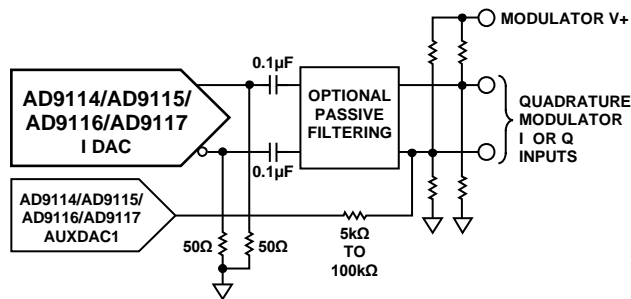
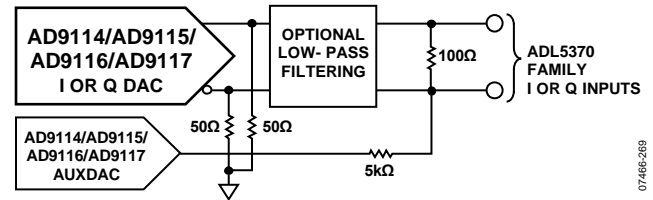

Figure 107. Typical Use of Auxiliary DACs
Figure 108. Typical Use of Auxiliary DACs When DC Coupling to Quadrature Modulator ADL537x Family
The auxiliary DACs can be used for local oscillator (LO) cancellation when the DAC output is followed by a quadrature modulator. This LO feedthrough is caused by the input referred dc offset voltage of the quadrature modulator (and the DAC output offset voltage mismatch) and can degrade system performance. Typical DAC-to-quadrature modulator interfaces are shown in Figure 107 and Figure 108, with the series resistor value chosen to give an appropriate adjustment range. Figure 107 also shows external load resistors in use. Often, the input common-mode voltage for the modulator is much higher than the output compliance range of the DAC, so that ac coupling or a dc level shift is necessary. If the required common-mode input voltage on the quadrature modulator matches that of the DAC, the dc blocking capacitors in Figure 107 can be removed and the on-chip resistors can be connected.
Figure 108 shows a greatly simplified circuit that takes full advantage of the internal components supplied in the DAC. A low-pass or band-pass passive filter is recommended when spurious signals from the DAC (distortion and DAC images) at the quadrature modulator inputs can affect the system performance. In the example shown in Figure 108, the filter must be able to pass dc to properly bias the modulator. Placing the filter at the location shown in Figure 107 and Figure 108 allows easy design of the filter, because the source and load impedances can easily be designed close to 50 Ω for a 20 mA full-scale output. When the resistance at the modulator inputs is known, an optimum value for the series resistor can be calculated from the modulator input offset voltage ratings.